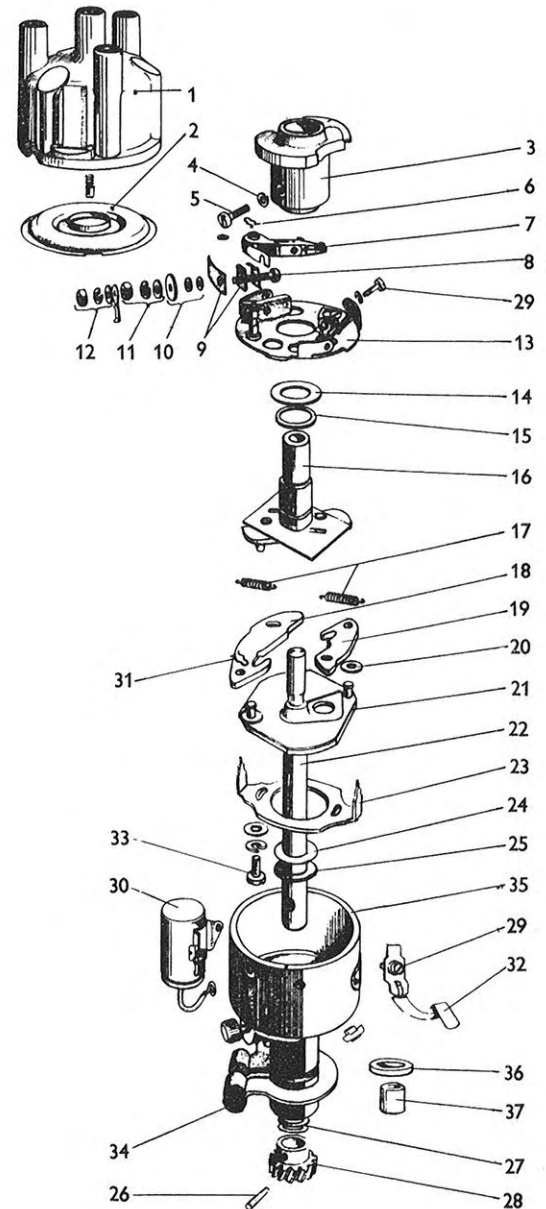

Fig. 17. Distributor.
3. Loosen locking screw 34, Fig. 17, on attachment plate under distributor.
1. Remove rotor 3. It is locked to the camshaft by stop screw 5, Fig. 17.
17. Fit screw 8, Fig. 17, for the condenser and primary cables. Note that the various washers must be correctly fitted, see Figs. 5 and 17. Do not tighten.
20. Fit the distributor pinion to the shaft. Before the pinion is riveted to shaft, the end play of the shaft must be adjusted by means of shims, 27, Fig. 17. The permissible end play is 0.1 - 0.2 mm. (0.004 - 0.008 in.). When driving in and riveting the slotted pin, be careful not to damage the shaft or its bearing.
Note that the spring washer 4, Fig. 17, under the stop screw must be replaced by a new one.